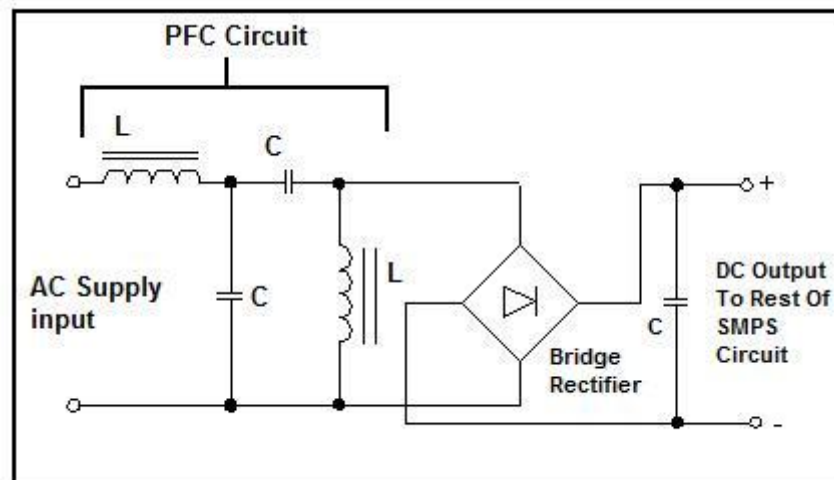

Figure 4.32- A Typical Passive PFC Circuit
Passive PFC circuits operate at mains frequency (50 or 60Hz) using passive components such as capacitors (C) and iron cored inductors (L) (see figure 4.32) tuned to the line frequency in a low pass or band pass configuration to filter the distortion's high harmonic wave, and only leave the 50 or 60 Hz basic wave in order to increase the power factor.